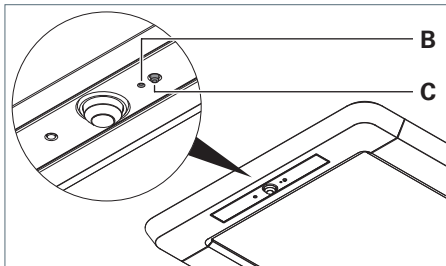
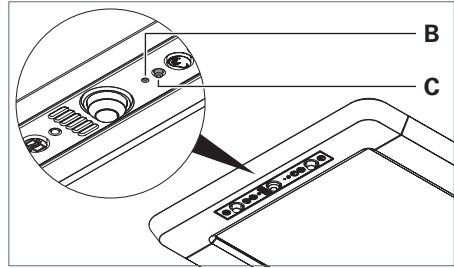

Fig. 34: Assigning the control element, version R.
Fig. 35: Assigning the control element, version RX.
- ▶ Press the key in the opening **B** with the end of opened paper clip, see Fig. 34 and see Fig. 35.
- ▶ Press the key **C**, see Fig. 34 and see Fig. 35.
- ▶ Press the key **C** and keep this key pressed, see Fig. 34 and see Fig. 35.